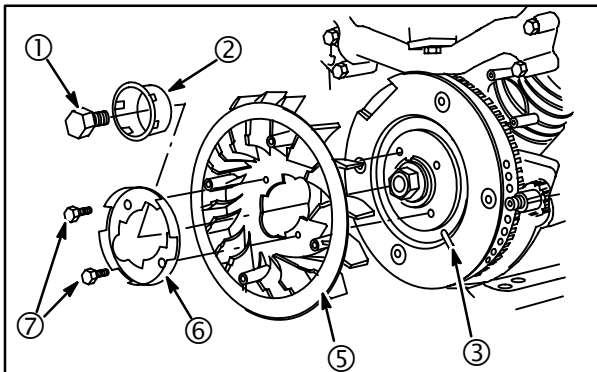

Fig. 18
1. Align boss on back of fan (5) with notch (3) in flywheel, **Fig. 18**.